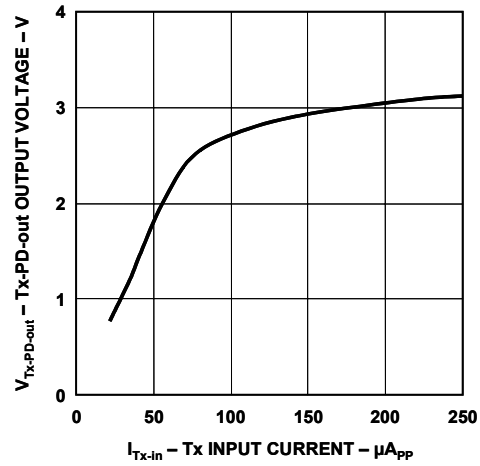
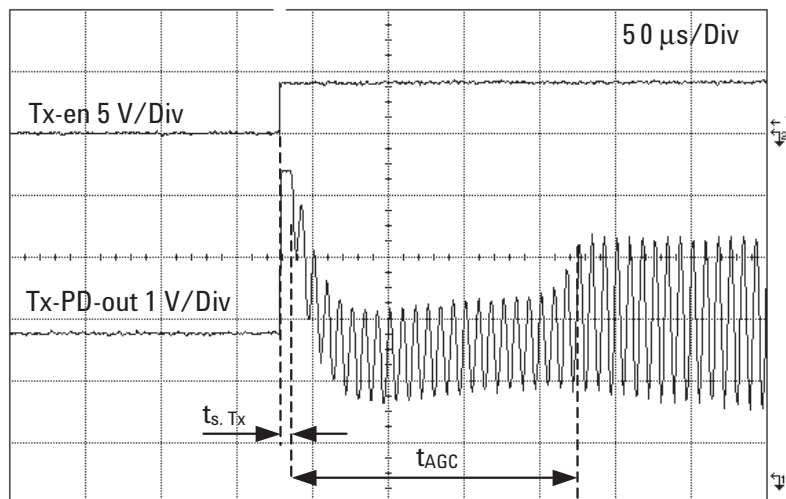

Figure 8. Tx-PD-out output voltage vs. Tx-in input current.
Figure 26. Tx-PD-out AGC response time.
1. Time from transmit is enabled (V_{Tx-en} is set to logic high) until output (Tx-PD-out) is available. See Figure 26 in the Application Information section.
2. Time from output (Tx-PD-out) is available until Tx-PD-out signal reaches 66% of its steady state level. See Figure 26 in the Application Information section.
variations in the optical channel over temperature and time. The Tx-PD-out output signal is effectively stabilized for input Tx-in signals of between 150 μ A_{pp} and 250 μ A_{pp} (see Figure 8). The AGC circuit starts to function 10 μ s after the Tx-en signal is set to logic high. After a period of 180 μ s the Tx-PD-out signal typically reaches 66% of its steady state level (see Figure 26). To ensure correct operation of the internal circuitry, an external 1 μ F capacitor needs to be connected from pin 11 to GND2.